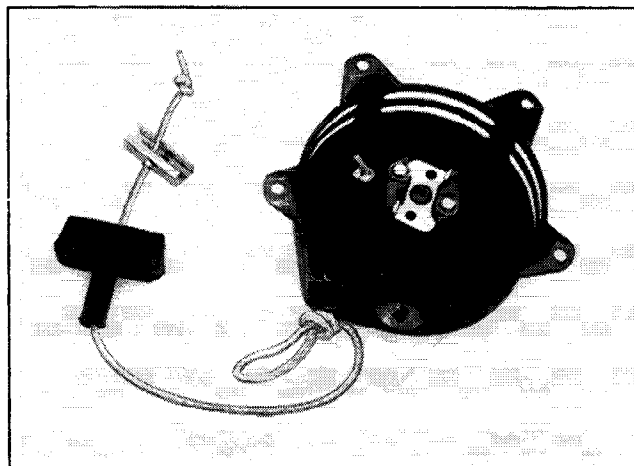

Figure 7-5. Removing Handle.
2. Pull the rope out approximately 12" and tie a temporary (slip) knot in it to keep it from retracting into starter. Refer to Figure 7-5.
11. Slip the handle and rope retainer onto rope. Tie a single knot at the end of rope and install rope retainer into handle. Refer to Figure 7-5.